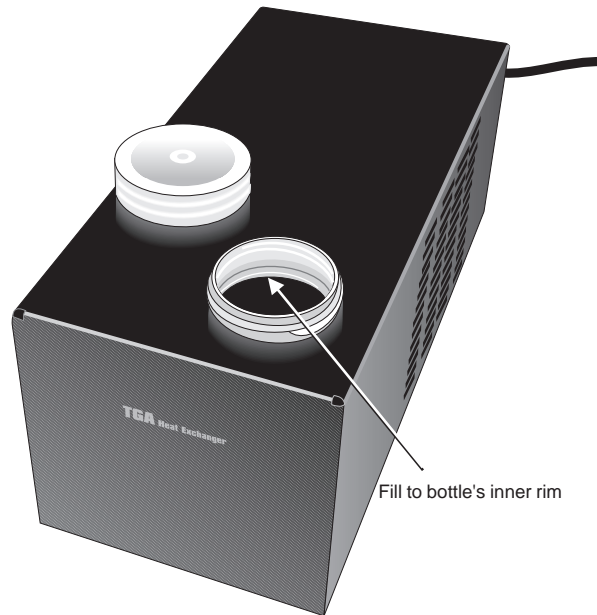

Figure 2.5
1. Unscrew the water reservoir cap on the heat exchanger bottle (see Figure 2.5).
2. Pour one half bottle of TA Instruments TGA Conditioner (PN 952377.001) into the water reservoir bottle. Then fill the bottle to the inner rim (see Figure 2.5) with distilled water.